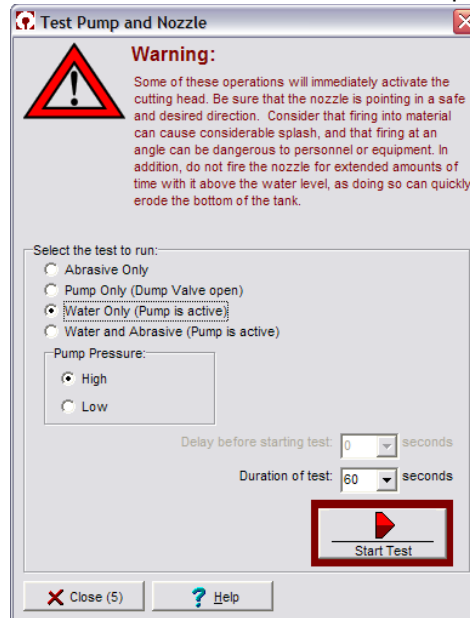

Figure 6-40: Pump and Nozzle Test Options
2. Purge the **high-pressure plumbing** to flush out any particles or contamination using the **nozzle test** with the **Water** only, **Low**-pressure options (see Figure 6-40 for test menu). To correctly flush your plumbing system, refer to the OMAX document, "Pulse/Surge Flushing of the UHP System", P/N 400571B. This document can be downloaded from the OMAX web site in the Customer Service/Field Technician section at www.omax.com.
2. First, test **nozzle** operation with **Water** only at **Low** pressure and then follow by testing with **Water and Abrasive** at **High** pressure. Refer to Figure 6-40 for an illustration of the pump and nozzle test screen.